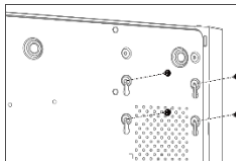

Figure 2-3 Fix HDD
Step 3 Match HDD screw threads with the reserved holes on the device bottom, and fix HDD with screws. Refer to Figure 2-3.